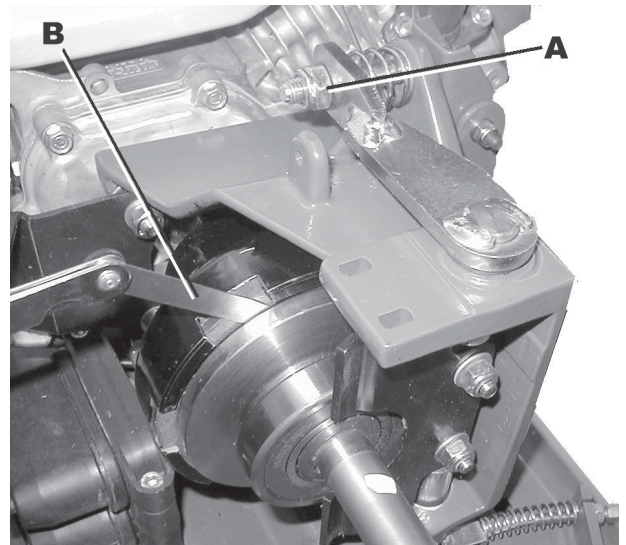

Fig. 8.13
2. Using a feeler gauge (B Fig. 8.13) adjust 'A' (Fig. 8.14) until the gap is between 0.38mm (0.0014") and 0.50mm (0.0020").